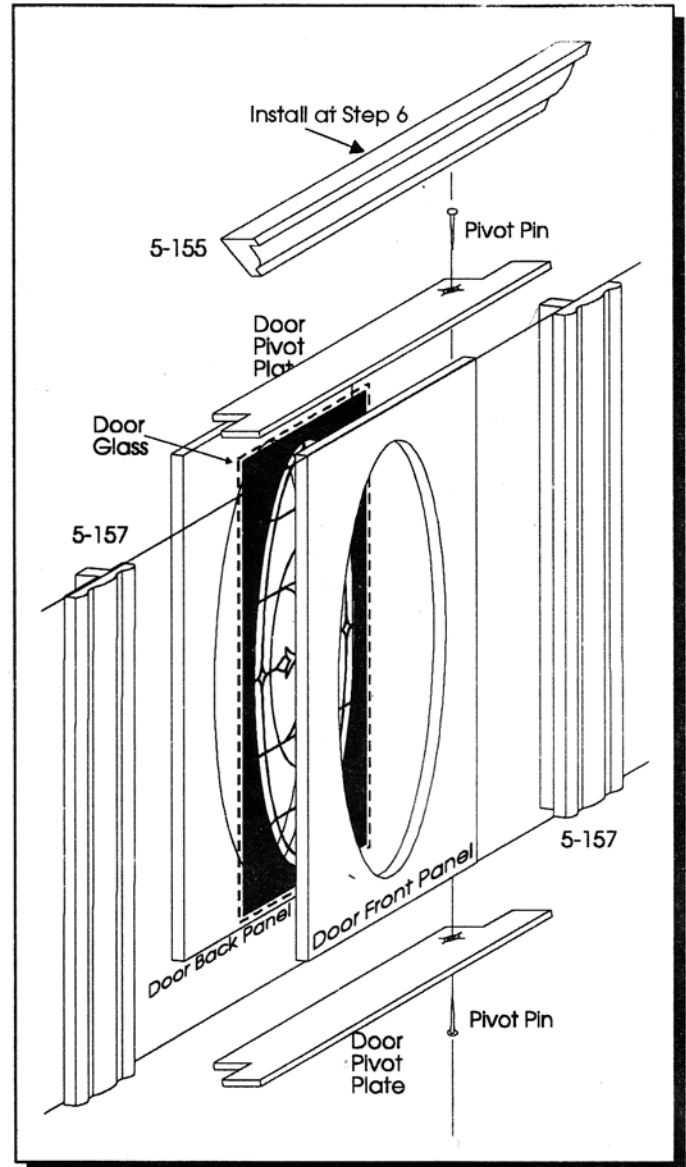

Figure 20
2. Assemble door as shown in Figure 20.